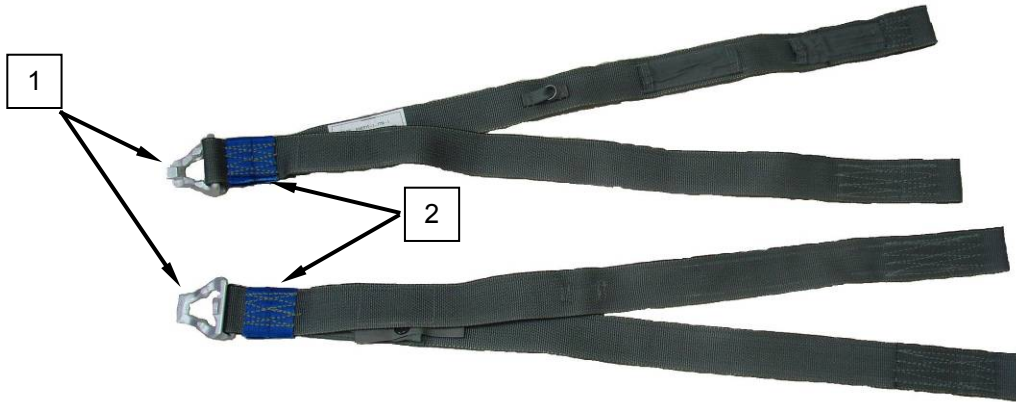

Figure 3. Riser Assembly.
- c. **Riser Assemblies.** Riser assemblies with large ring have been replaced with riser assembly containing the male fitting of the canopy release assembly (Figure 3, Item 1) and blue confluence wrap (Figure 3, Item 2).